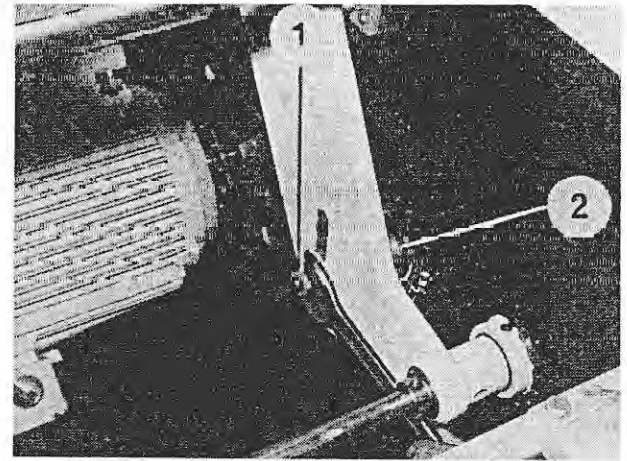

Fig. 68
8. To adjust the chain tension, loosen the hex nut (Figure 68/1). Push the sprocket wheel (Figure 68/2) upwards and tighten the hex nut.